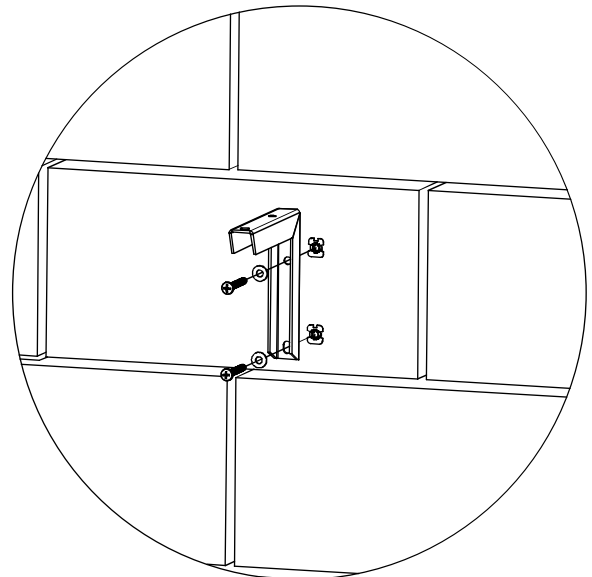

Figure 5
7. Using two 1/4-20 x 2" long machine screws (not provided) and 1/4" flat washers (not provided) attach bracket to wall using top and bottom mounting holes. (See Figure 5)